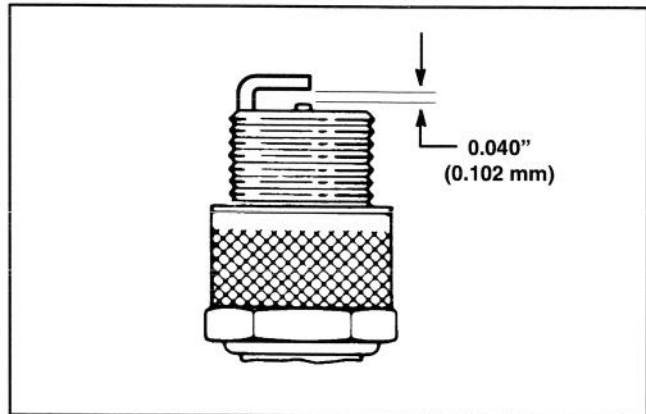

Figure 18
4. Set air gap between center and side of electrodes at 0.040 of an inch (0.102 mm) (Fig. 18). Install correctly gapped spark plug w/gasket seal, and tighten plug to 20 ft.-lb. (27 N.m). If torque wrench is not used, tighten plug firmly.